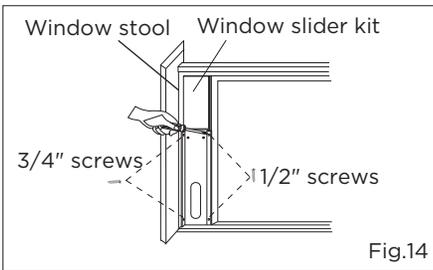

Fig.14
3. Close the window sash securely against the window slider kit.(Fig.14)
4. Drive two 1/2" screws to secure the window slider kit to the window sash.(Fig.14)
5. Drive two 3/4" screws to secure the window slider kit to the window stool.(Fig.14)